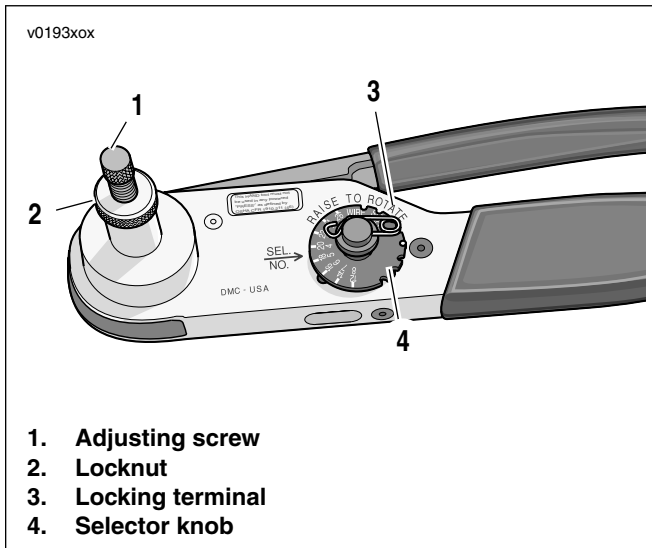

Figure 5-14. Deutsch Solid Barrel Contact Crimp Tool (Part No. HD-42879)
2. See Figure 5-14. Remove locking terminal (3) from selector knob (4).